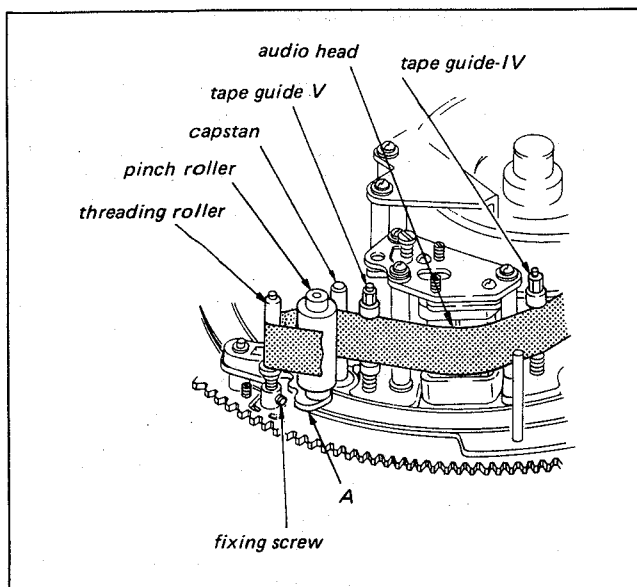

Fig. 6-14. FWD mode tape run adj. (FWD mode with tape)
- iii) Loosen the fixing screw in the bottom of the Threading Roller, shown in Fig. 6-14 and adjust the Threading Roller Shaft for correct heightness in observing step (i). Tighten the fixing screw.
5. While threading the tape, check to see that the Tape Guide IV and V, shown in Fig. 6-14 are not causing any scar on tape.